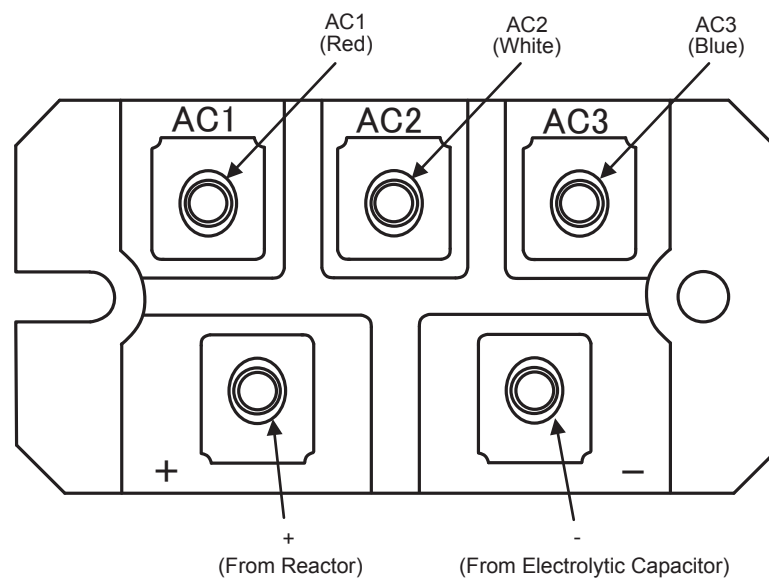

Fig.1 Parts arrangement view
- Start the replacing work **ten minutes after turning off the power.** (Be sure to measure the voltage (DC) between **the electrolytic capacitor terminals (connector terminals of fan motor power etc.) to check that the electrolytic capacitor have been discharged completely.**)
- Disconnect with the wire (AC1, AC2, AC3, +, -) to the diode module. (See Fig. 1)
- Connect the wire to the diode module (AC1, AC2, AC3, +, -). (See Fig.1) (Recommended diode module tightening torque: 2.4 ~ 2.8N·m)